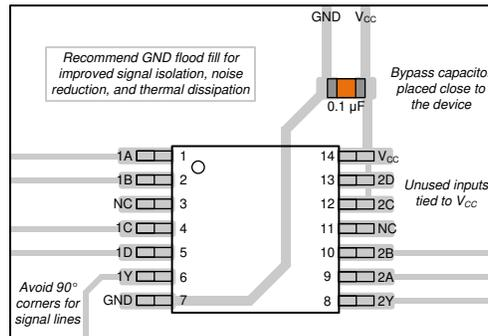

Figure 11-1. Example layout for the CD74HCT21
1. Add a decoupling capacitor from V_{CC} to GND. The capacitor needs to be placed physically close to the device and electrically close to both the V_{CC} and GND pins. An example layout is shown in Figure 11-1.
The power supply can be any voltage between the minimum and maximum supply voltage rating located in the Section 6.3. Each V_{CC} terminal should have a bypass capacitor to prevent power disturbance. A 0.1- μF capacitor is recommended for this device. It is acceptable to parallel multiple bypass caps to reject different frequencies of noise. The 0.1- μF and 1- μF capacitors are commonly used in parallel. The bypass capacitor should be installed as close to the power terminal as possible for best results, as shown in Figure 11-1.